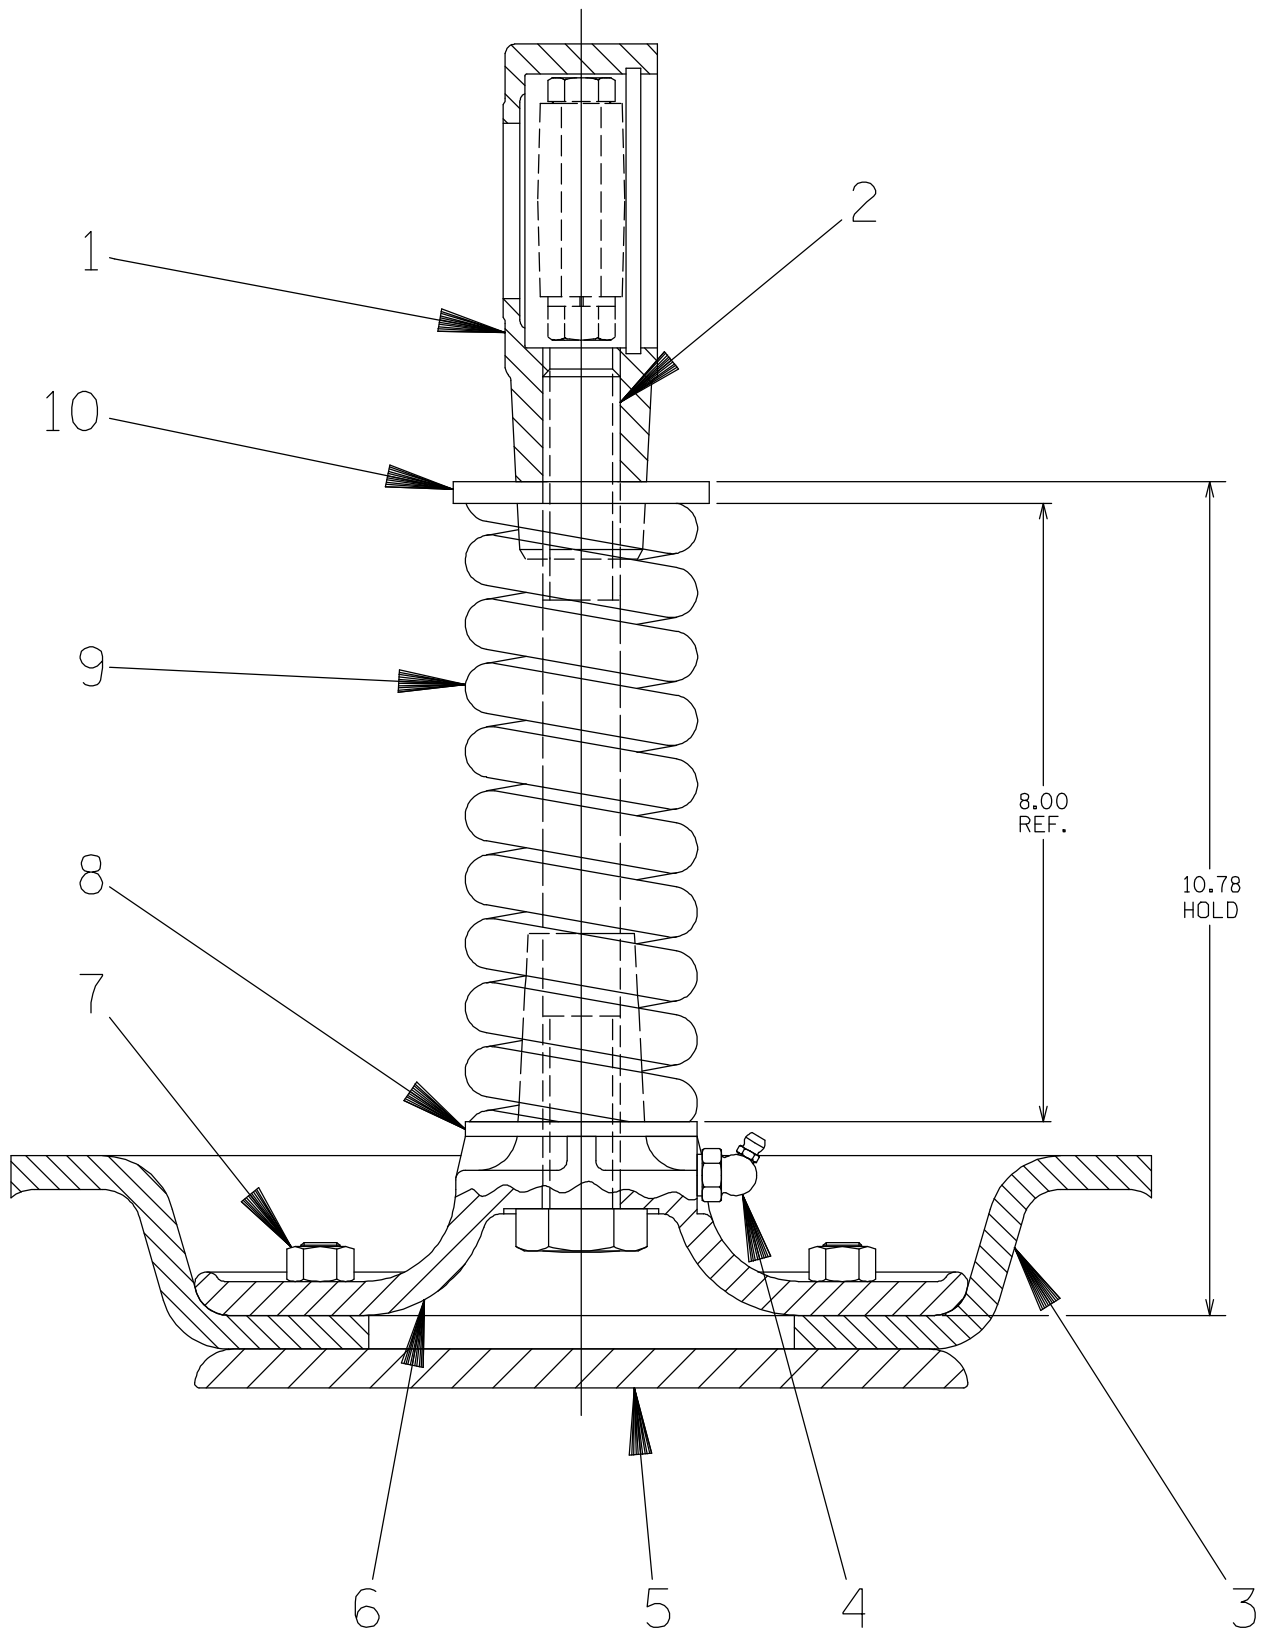

Figure 3. 6959 Plunger Rod Assembly
To remove the diaphragm (3, Figure 3), disengage the hardware (28, 29 and 30) and remove the diaphragm pot assembly (31). Inspect the diaphragm ring (20) for wear or damage. If replacement is required, the gearbox assembly (25) and the eccentric guard (39) must be removed.
(Figure 3)